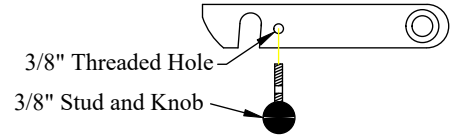

Figure 20: Original Series platform latch knob.
1. **Install** the two (2) knobs on the platform latches (Original Series only) see (Figure 20).
2. **Install** the two (2) square plastic insert nuts for the license plate into the square holes on the liftgate.
3. **Install** the license plate using the two (2) stainless steel screws provided.